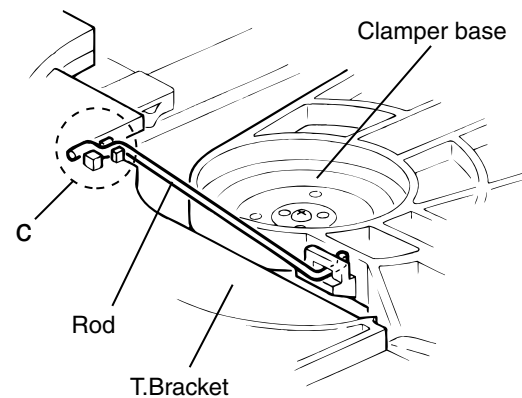

Fig.2
■ Removing the DVD tray assembly (See Fig.2~4)
6. From the clamber base section c, remove both of the edges fixing the rod(See Fig.2 and 3).